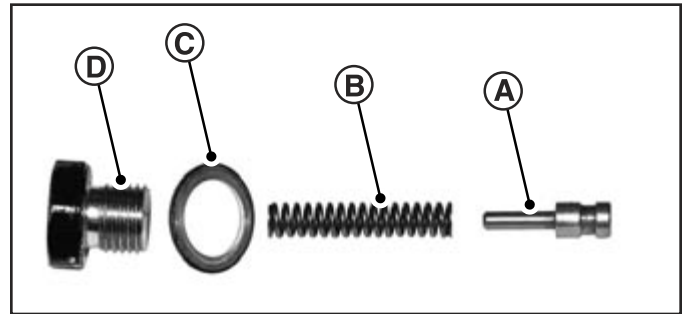

Fig. 13, Relief Valve Assembly
- Disassemble PTO relief valve. (Fig. 13)
- Install spring (B), gasket (C), relief valve plunger (A), and plug (D) in PTO cover. (Fig. 13)